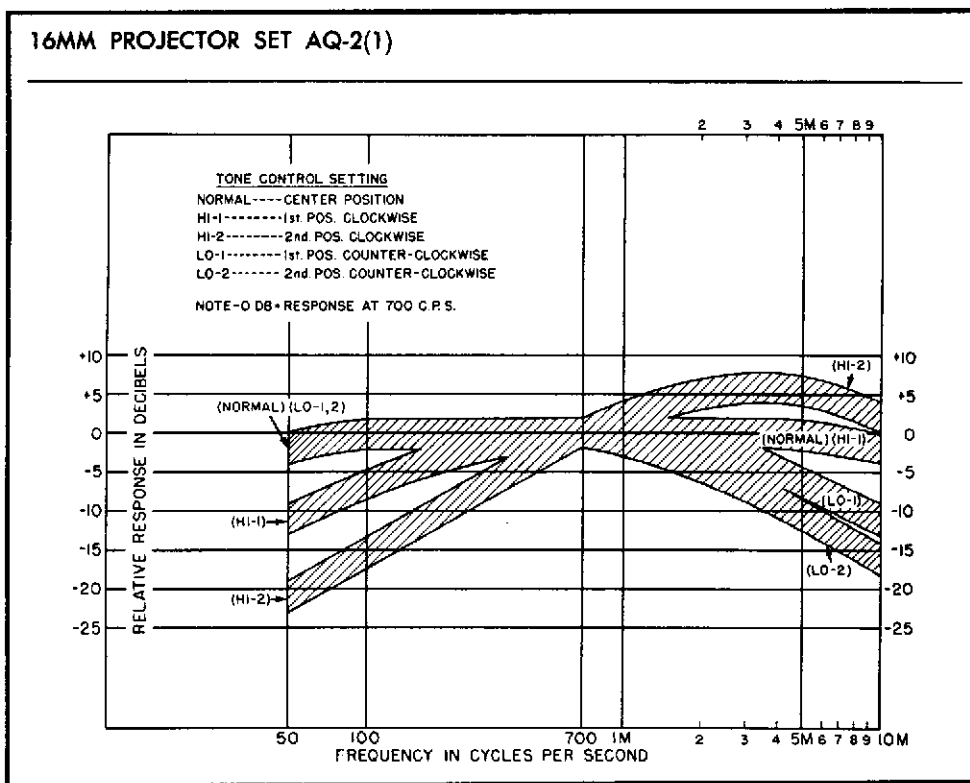

Figure 3-2. Tone Control Frequency Response Characteristics
3-26. HIGH FREQUENCY ACCENTUATION AND LOW FREQUENCY ATTENUATION. In the first clockwise position from normal of the tone control switch, frequencies below 700 cps are attenuated due to the reduced coupling capacity to the grid of tube V202(A) by the insertion of capacitor C210 in series with capacitor C208. This low frequency attenuation is increased in the second clockwise position by the insertion of capacitor C209 in series with capacitors C208 and C210. In addition, capacitor C206 and resistor R211 are shunted across the cathode bias resistor R205 which accentuates frequencies above 700 cps by reducing the cathode degeneration. The second clockwise position from normal of the tone control switch provides 12 decibels (± 2 db) of attenuation at 100 cps and 6 decibels (± 2 db) of accentuation at 3500 cps. The tone control frequency response characteristic curve is shown to figure 3-2.